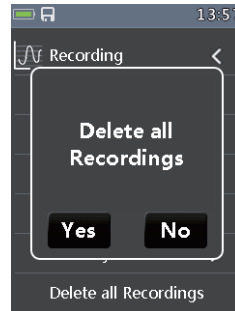

Fig139
- In Record Menu. Press the Button ▲ or ▼ key to select Delete all Recordings Item(Fig139). Press the Button ▶ Enter Delete Box. And select Yes or No.